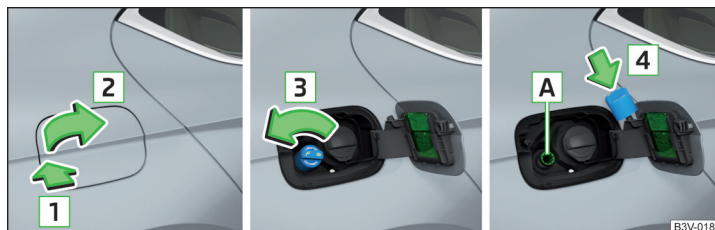

Fig. 314 **Open fuel filler flap / unscrew tank cap / place the tank cap on the fuel filler flap**
- Press the fuel filler flap in the direction of arrow **1** and open it in the direction of arrow **2** » Fig. 314.